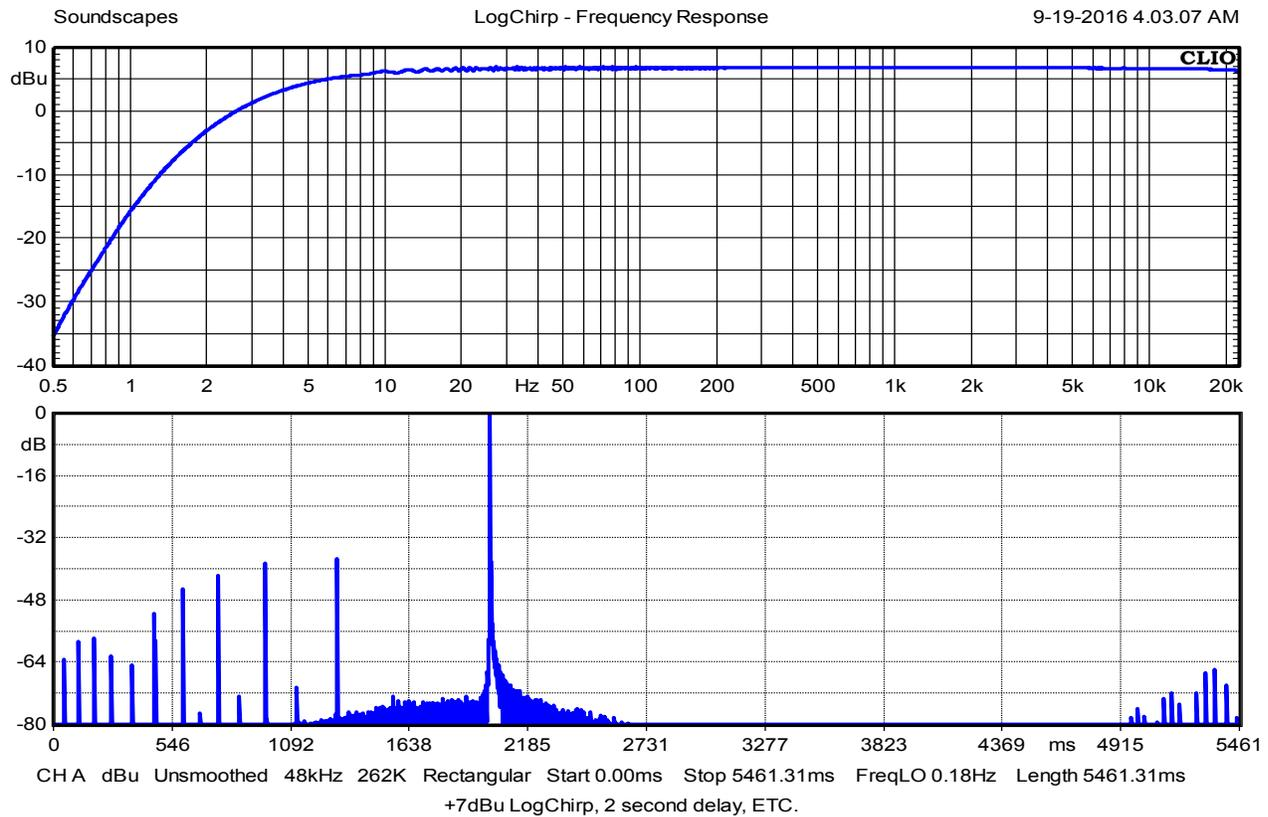

Fig 2: Energy Time Curve showing multiple "arrivals" prior to main signal arrival delayed 2 seconds.
After executing the first measurement we see we have a problem2 (Fig 2). The frequency response of the loudspeaker seems as expected, but the energy time curve (ETC) of the impulse response (IR) is showing something that seems impossible - energy arrivals earlier than (to the left of) the main arrival from the loudspeaker!
2 For those experienced with room ETC's, you'll notice that the noise floor in Fig 2 is far too low to be a real room. This is a measurement of the processor alone to illustrate the text with greater clarity. An example of a real room impulse response with two "pre-arrivals": <http://audiomatica.us/resources/Education/IRdist.jpg>. In this situation the voltage output from the measurement microphone exceeded the input capability of the audio interface. Reducing the microphone preamp gain removed these "pre-arrivals" in subsequent measurements.
really interesting, look back at the LogChirp plot in Fig 2. Notice that the closest high level energy peak to the main arrival is also down 38dB. Keep reading to find out why!